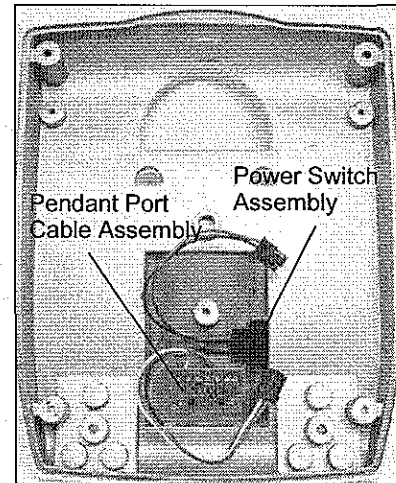
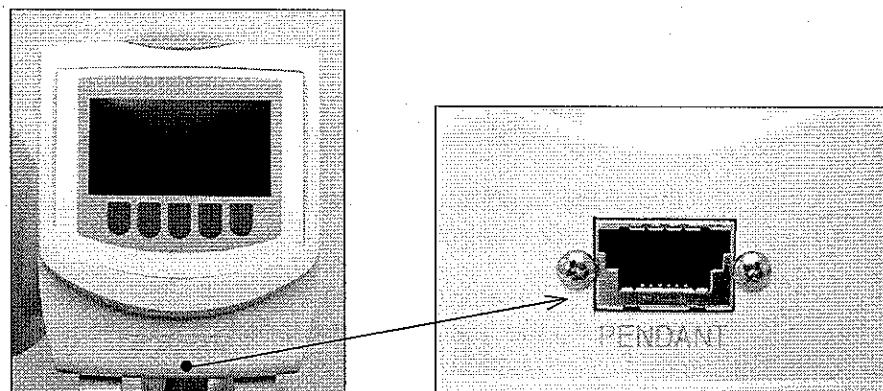

Figure 5-10: Rear Enclosure
Figure 5-11: Pendant Port
8. From inside the Injector Controller's Rear Enclosure, squeeze the locking tabs on the sides of the Power Switch Assembly and push out the power switch (see Figure 5-10).
1. Insert the wires of the Power Switch Assembly into the Injector Controller's Rear Enclosure through the enclosure's opening (see Figure 5-10). Orient the switch so that the "O" is on the bottom.
9. Remove two Phillips screws on either side of the Pendant Port (see Figure 5-11). It's located on the bottom of the Injector Controller's Rear Enclosure. Remove the Pendant Port Cable Assembly from the inside of the enclosure (see Figure 5-10).
1. Install the Pendant Port Cable Assembly into the Injector Controller's Rear Enclosure (see Figure 5-10).
2. Place Loctite 242 on the two Phillips screws and use them to secure the Pendant Port Assembly to the enclosure (see Figure 5-11).